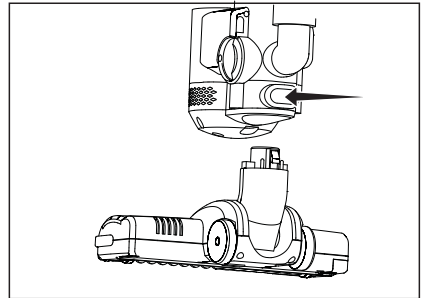

Fig. 3
- Remove the floor nozzle by pressing the floor nozzle release button on the back of the vacuum (Fig. 3).